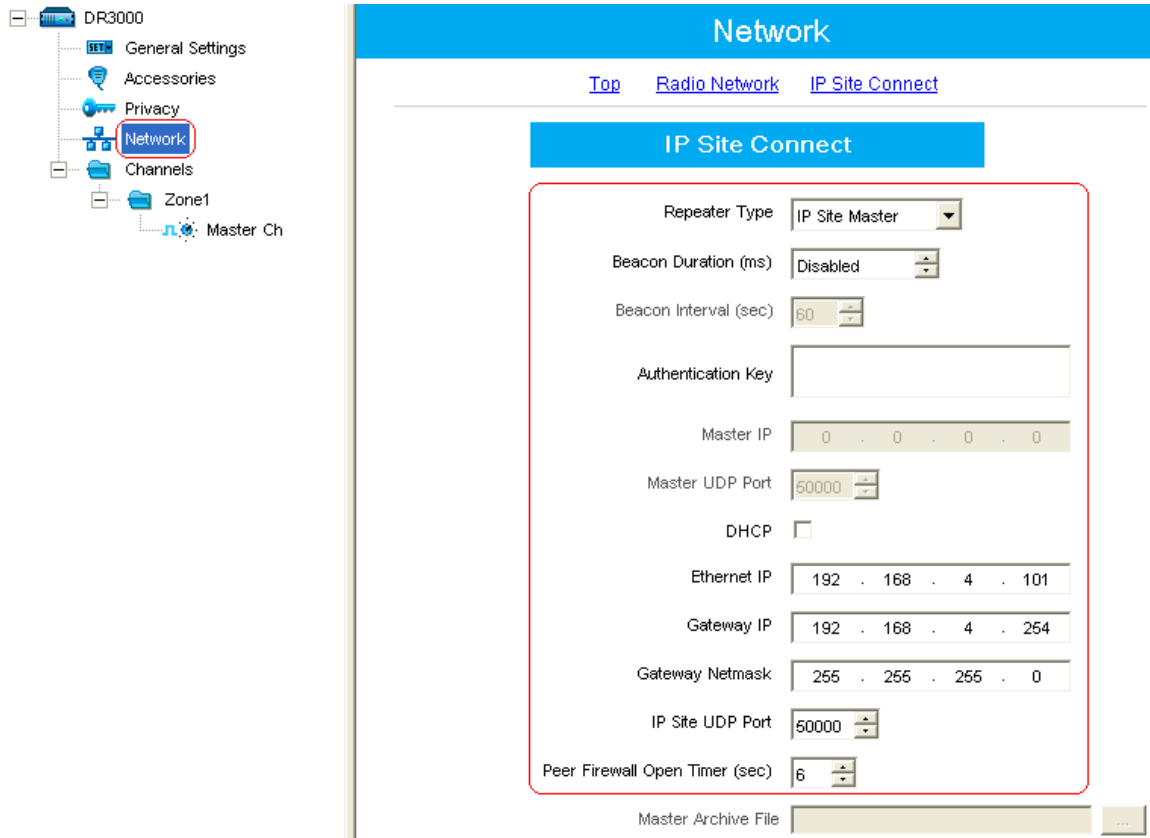

Figure 6.3
- 2) Navigate to the Network screen and set the Repeater Type to 'IP Site Master' (see Figure 6.3 below).
- 3) For this simple system configuration radios are not required to automatically roam across the sites, so disable the beacon signal feature (see Figure 6.3 below).
- 4) It is not physically possible for rogue repeaters to attach themselves to this simple system configuration, so disable the repeater authentication feature by leaving the Authentication Key field blank (see Figure 6.3 below).
- 5) Since this is the Master repeater and there is no DHCP server, deselect the DHCP option and enter Static values for the Ethernet IP, Gateway IP and the Gateway Netmask. For this simple connection it does not matter what subnet the repeater is programmed for, however the subnet parameters must be consistent for both repeaters. For the example in Figure 6.3 below, the Master repeater is programmed to operate on the subnet 192.168.4.X and the subnet parameters are programmed as follows:
- 6) Leave the IP Site UDP Port and Peer Firewall Open timer at their default values of 50000 and 6 respectively (see Figure 6.3 above).